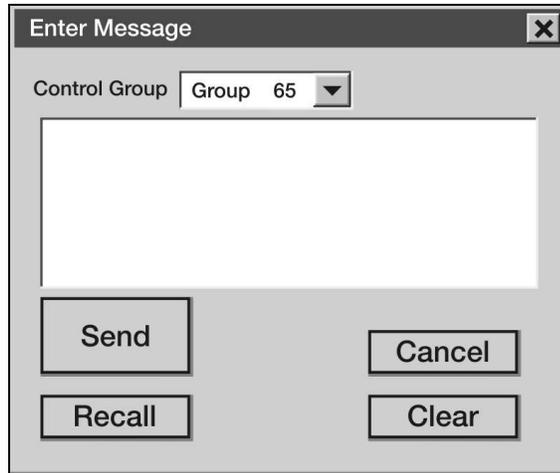

Figure 3-35. Send Message to Control Group
- b. Send a message to all members of a control group (see Figure 3-35).
- (1) Select send messages - to group, or press F4, to send a message to all members of the control group, except the sender. Mobile units will only see one control group, while control stations might be members of several control groups.
- (2) Enter the text in the message text field and press the send button. Pressing recall button will load the message box with the text from the last message sent. To close the window without sending a message, press the cancel button. To erase any text in the message text field press the clear button.
- (3) After sending message, go to read messages - review sent messages to see if any group members received the message.